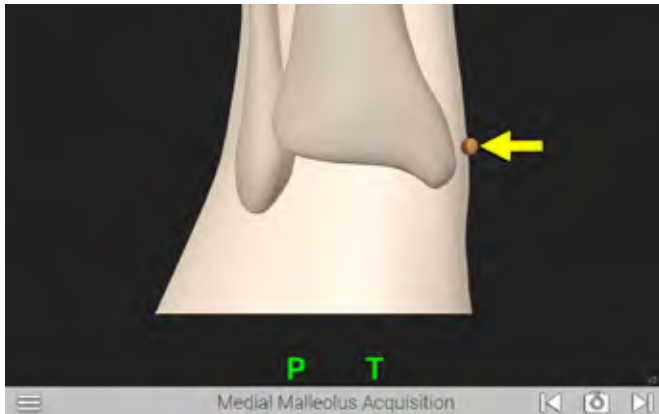

Figure 38
Advance to the Medial Malleolus Acquisition screen (Figure 38). Position the tip of the Probe Tracker (P) on the medial malleolus and press the Forward button to register this point. The system automatically advances to the Lateral Malleolus Acquisition screen (Figure 39). Repeat to acquire point for lateral malleolus acquisition.